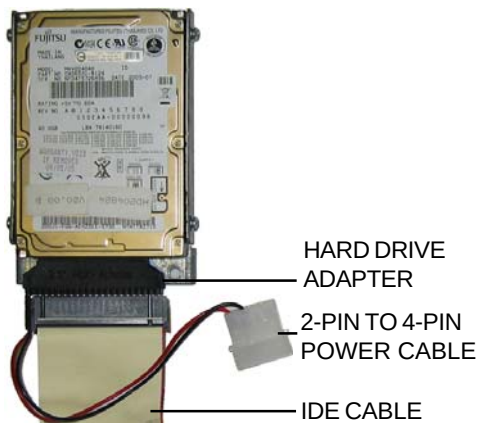
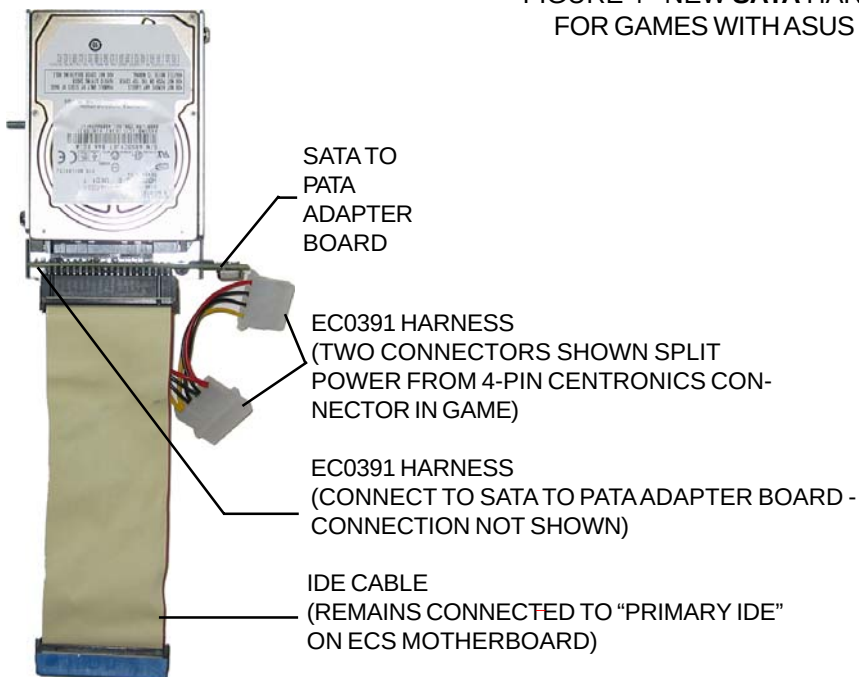
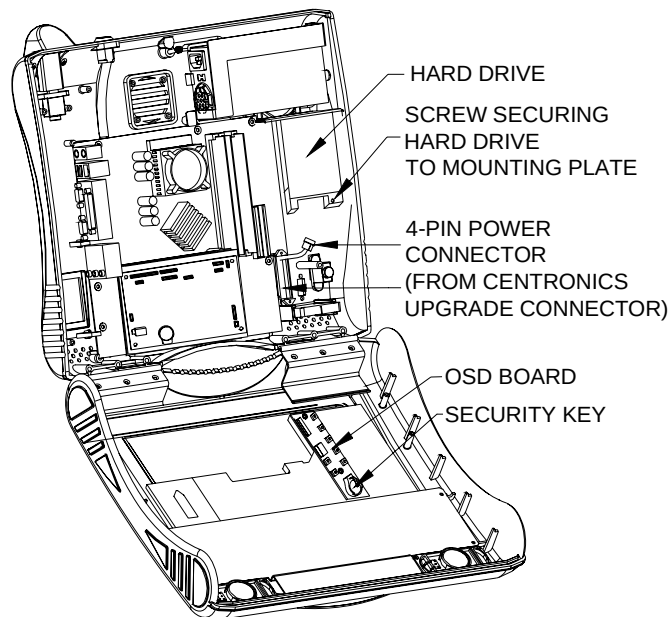
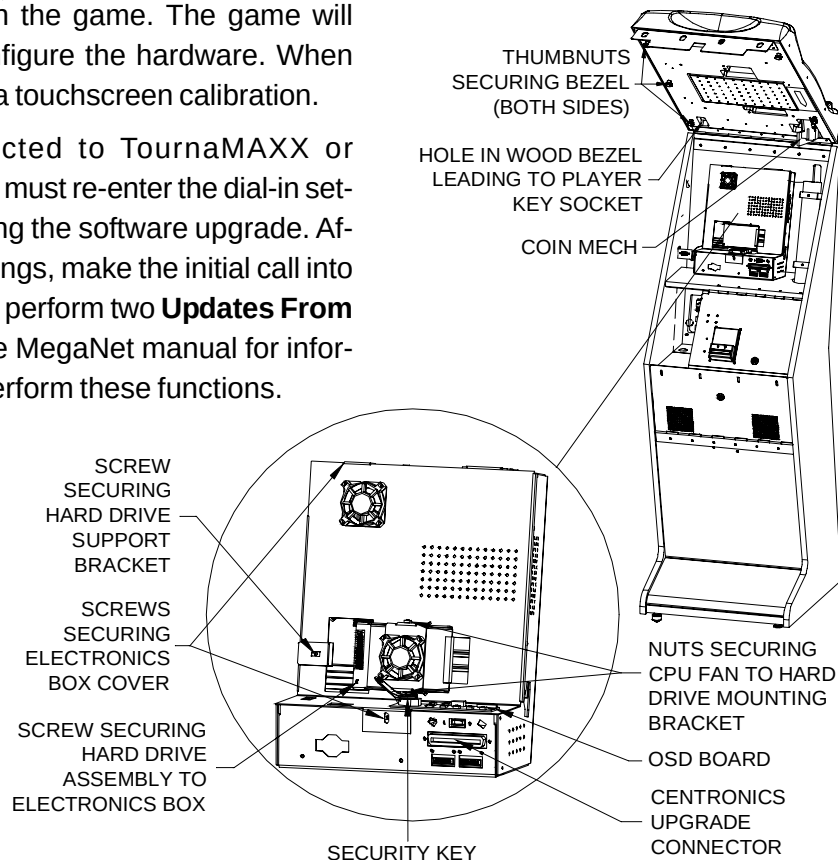

FIGURE 3 - OLD **PATA** HARD DRIVE ASSEMBLY
FIGURE 5 - NEW **SATA** HARD DRIVE ASSEMBLY
FIGURE 6 - EVO, EVO WALLEETTE / ENTERTAINER, AND ELITE EDGE WITH CPU SECTION OPEN
FIGURE 7 - FUSION GAME WITH DETAIL VIEW OF ELECTRONICS BOX
4. Use Figures 3 and 4 to confirm that you have a PATA hard drive in your game.
5. Disconnect the hard drive adapter (with its attached cabling) from the hard drive (Figures 3 and 6).
- 7a. **If you have an ECS motherboard:** Disconnect and remove the hard drive adapter and the 2-pin to 4-pin power cable from the IDE cable, leaving the other end of the IDE cable connected to the motherboard (see Figure 3). Continue with step 8.
- 7b. **If you have an ASUS motherboard:** Disconnect the 2-pin to 4-pin power cable and the IDE cable and remove them both from the game (they will not be reused). Connect one end of the provided SATA power cable to this now free 4-pin power connector in the game (see Figures 3 and 4).
8. Remove the screw securing the hard drive mounting bracket to its mounting plate (see Figure 6). Remove the hard drive from its mounting plate by sliding the assembly down and off the bracket.
- 10a. **ECS motherboards ONLY:** Referring to Figure 5, connect the mating connector on the supplied EC0391 harness to the provided SATA to PATA adapter board. Connect the free end of the IDE cable inside the game to the SATA to PATA adapter board. Then, connect the provided SATA to PATA adapter board to the hard drive.
Locate the 4-pin connection from the centronics upgrade connector inside the game (see Figure 6). Disconnect this 4-pin connection and connect each of the mating connectors on the EC0391 harness to these two 4-pin connectors (see Figure 5).
12. Locate the security key (the button-shaped disc with the handle) on the OSD board (see Figure 6). Remove the existing security key from the OSD board by sliding it out of place. Slide the new security key into place.
6. Remove the screw on the hard drive support bracket (this bracket and screw will not be reused). Then, disconnect the hard drive adapter (with its attached cabling) from the hard drive (see Figure 3). Remove the screw securing the hard drive assembly to the electronics box (see Figure 7) and remove the hard drive assembly. Route the hard drive cabling into the electronics box through the access hole to the left of the now-absent hard drive.
7. To remove the electronics box cover, disconnect the 2 or 3 fan connections on the face of the electronics box. Also, disconnect the 2 OSD board connections and route the wires back into the electronics box through the access hole to the right of the hard drive (see Figure 7). Remove the 2 screws securing the electronics box cover and carefully remove the cover (see Figure 7).
- 9a. **If you have an ECS motherboard:** Disconnect and remove the hard drive adapter and the 2-pin to 4-pin power cable from the IDE cable, leaving the other end of the IDE cable connected to the motherboard (see Figure 3). Continue with step 10.
- 9b. **If you have an ASUS motherboard:** Disconnect the 2-pin to 4-pin power cable and the IDE cable and remove them from the game (they will not be reused). Connect one end of the provided SATA power cable to this now free 4-pin power connector in the game (see Figures 3 and 4).
10. Separate the CPU fan mounting plate from the hard drive mounting bracket by removing the 2 nuts (see Figure 7). Reattach the CPU fan mounting plate to the provided hard drive assembly with these 2 nuts (see Figure 7).
- 12a. **ECS motherboards ONLY:** Locate the 4-pin connection coming from the centronics upgrade connector inside the electronics box (see Figure 7). Disconnect this 4-pin connection and connect each of the mating connectors on the EC0391 harness to the these two 4-pin connectors (see Figure 5). Hold the electronics box cover up to the electronics box and route the free end of the EC0391 harness, and the free end of the IDE cable out through the access hole in the electronics box cover (located to the left of the hard drive). Then, route the 2 OSD board connectors through the access hole to the right of the hard drive.
- ECS motherboards ONLY:** Referring to Figure 5, connect the mating connector on the supplied EC0391 harness to the provided SATA to PATA adapter board. Connect the free end of the
15. Locate the security key (the button-shaped disc with the handle) on the OSD board (see Figure 7). Remove the existing security key from the OSD board by sliding it out of place, and replace it with the supplied security key.